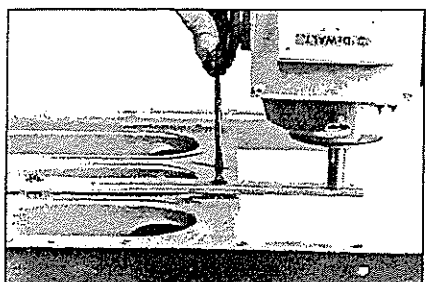

Fig. 4
- (viii) Now adjust the central table support strip in the same way so that it is perfectly level with the two side support brackets. (Fig. 4).
Fig. 4 a